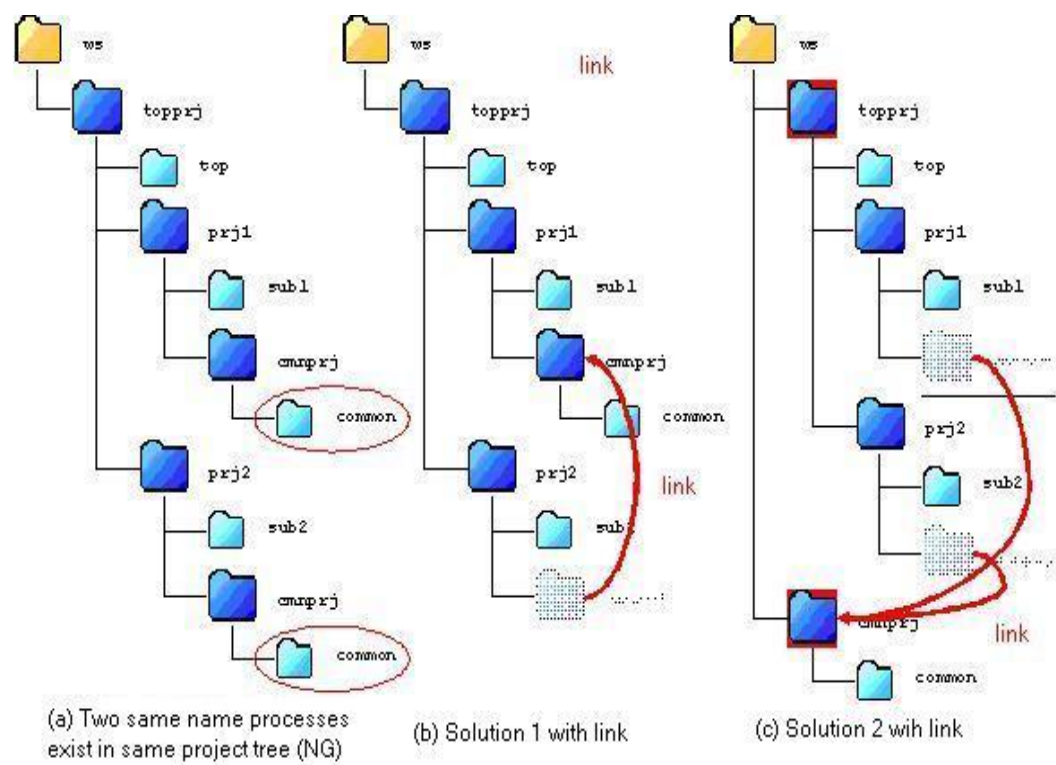

Figure 4-12 Multiple use of same name processes
In CWB-gui, there cannot be multiple entries for same name processes in project tree that takes project under workspace as the root. Though Figure 4-12(a) shows multiple entries of same name processes mentioned as common in project tree that takes project topprj under workspace ws as the root, but actually this kind of project cannot be built. Depending on the various operations such as project import, analysis there is a possibility of a situation like this but in that case processing is stopped by displaying error message and due to this, process with a name same as the name of an existing process does not get entered.
In case of ASIC, in case project tree corresponding to (a) needs to be built, then it will result in building of projects as shown in Figure 4-12(b) and Figure 4-12(c). Both are using link functionality of project.
- Figure 4-12(b): cmnprj under prj1 is same as (a) but, cmnprj under prj2 changes to link for prj1/cmnprj. In case synthesis or model generation is done for process sub2, prj1/cmnprj/common process that becomes link destination is referred.
- Figure 4-12(c): project cmnprj that has common process under workspace ws is newly setup and cmnprj under prj1, and cmnprj under prj2 are replaced by link to this project. In case synthesis or model generation is done for process sub1 and sub2, ws/cmnprj/common that becomes link destination is referred.